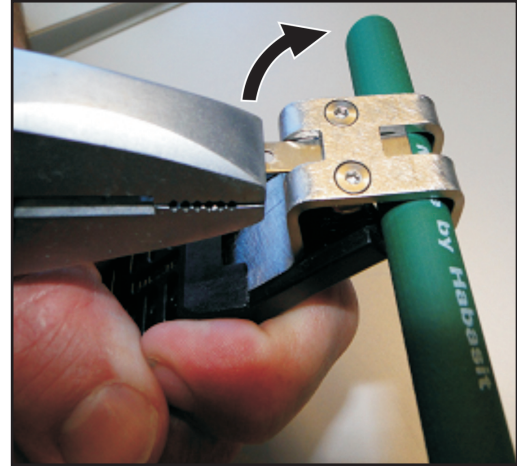

Figure 4
4. After replacement of the blade, the remaining part of the blade must be removed to allow the tool to be used properly. Using a pair of pliers and wearing safety glasses, hold the tool and break off the remaining blade by moving the pliers away from you and the tool. Refer to Figure 4.